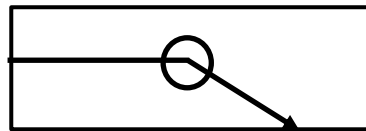

FIGURE 5.2.1
5.2 Identify the supplementary weld symbols in FIGURES 5.2.1 to 5.2.4 below.